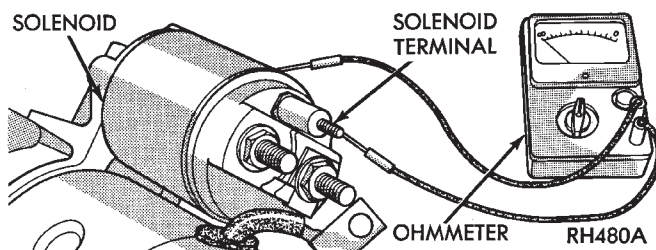

Fig. 10 Continuity Test Between Solenoid Terminal and Solenoid Case - Typical
(4) Check for continuity between the solenoid terminal and the solenoid case (Fig. 10). There should be continuity. If not OK, replace the faulty starter motor assembly.